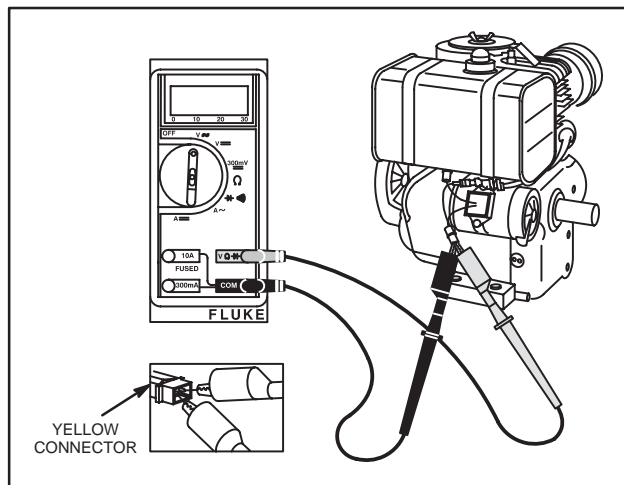

Fig. 781 – TESTING ALTERNATOR OUTPUT
4. Insert RED and BLACK test lead probes into output terminals in yellow connector, as shown in Fig. 781. (Meter test clip leads may be attached to either terminal.)